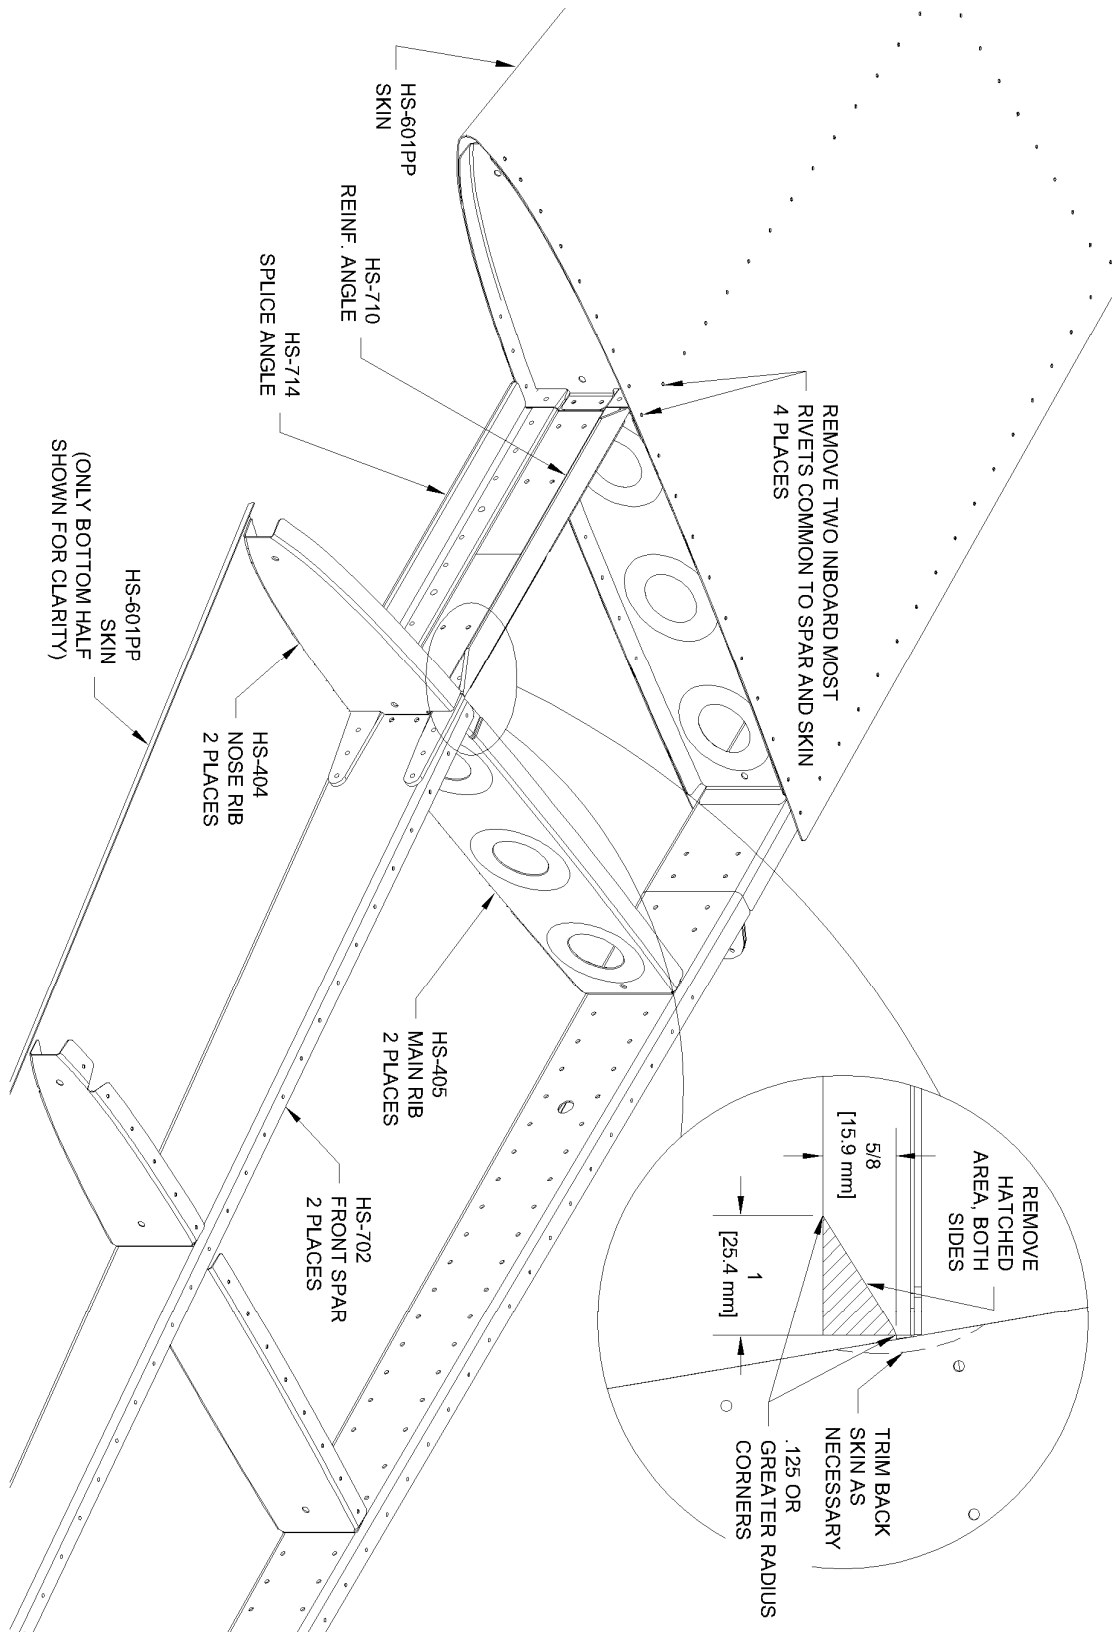

FIGURE 2: HORIZONTAL STAB ASSEMBLY
Step 2: Remove the two most inboard rivets common between the HS-601PP Skins and the top and bottom flanges of the HS-702 Front Spar for both sides of the assembly as shown in Figure 2. See Section 5.4.
Step 3: Remove the rivets attaching the HS-404 Nose Ribs and HS-405 Main Ribs to the skins. See Figure 2.
Step 6: Remove the rivets holding the HS-710 Reinf. Angle to the front spar. Remove the angle and double check that the corners of the fwd facing flange have been relieved as shown in the Figure 2 detail view.
If notches are not present, use a round file to add relief notches (first refer to the following step... adding a missing notch may be done in conjunction with removing a crack). This will require trimming the skin slightly as shown in Figure 2 to gain access for the file.